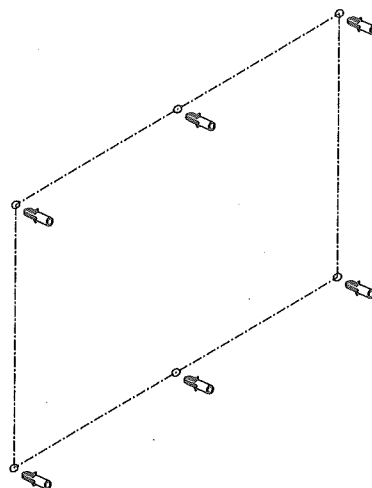

Fig. 4
4. Take away the bracket and then, using an 8mm drill bit, drill pilot holes in the wall. Put the plastic wall anchors into the holes. (Fig. 4)